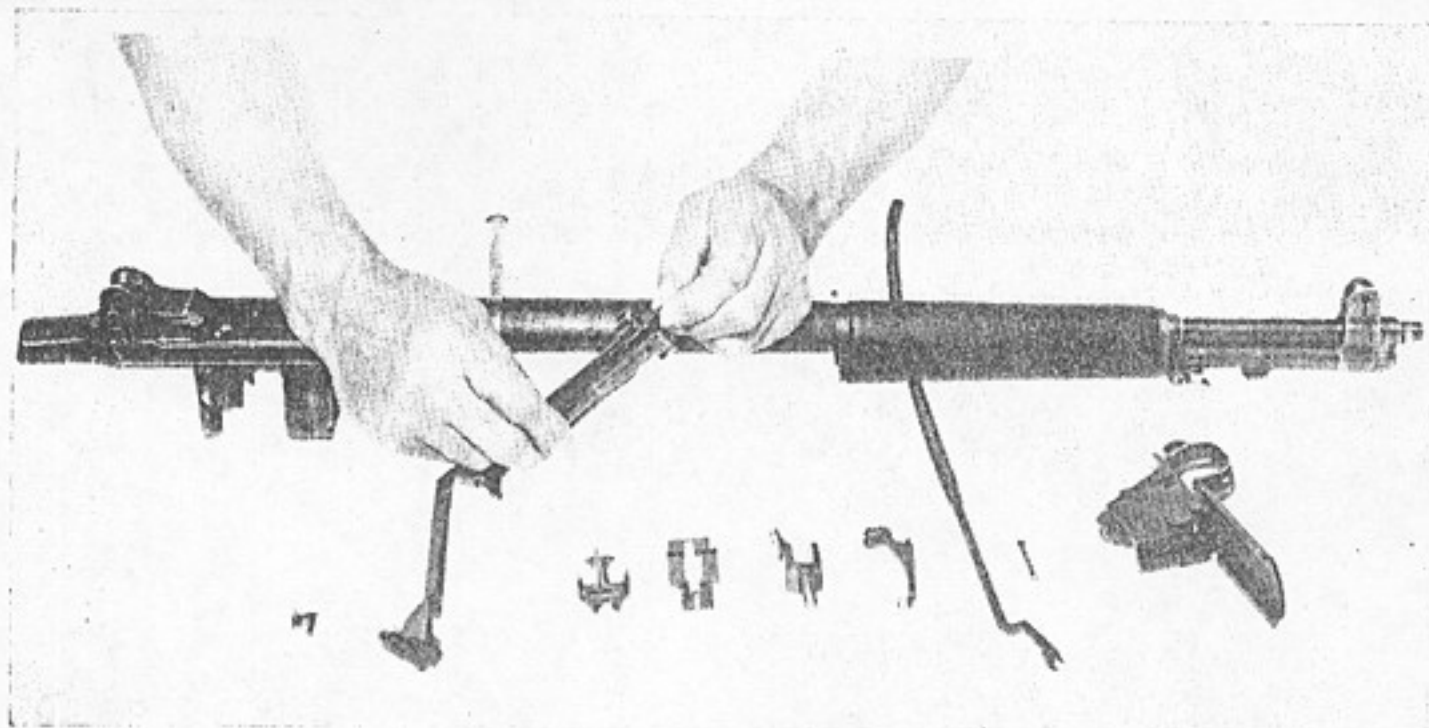

Figure 4. Removing Extractor Spring and Plunger
- (3) (Plate 11, Figure 4.) Tap the bolt gently until the extractor spring and plunger are unseated. Remove both parts, but do not separate.